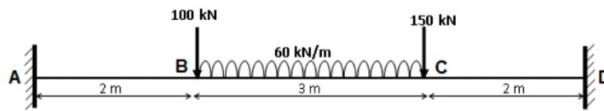

Figure: 5
6. Analyse and draw the bending moment diagrams for a fixed beam supported and loaded as shown in Figure 5. [15]